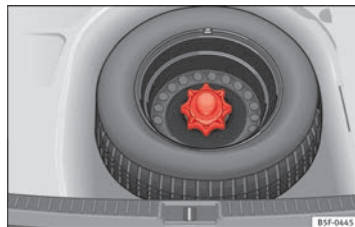

Fig. 175 Compact temporary spare wheel: raised floor panel.
- Lift and hold up the floor panel to remove the temporary spare wheel ⇒ Fig. 175.